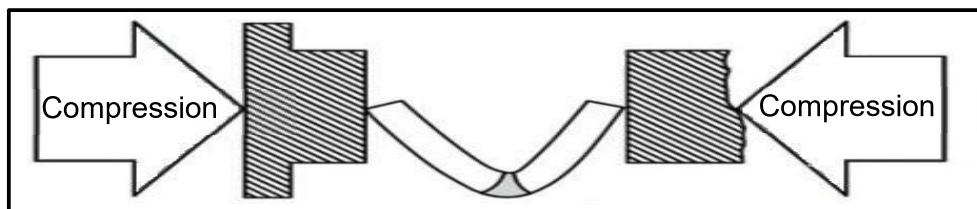

FIGURE 4.12
- 4.12 Identify the test shown in FIGURE 4.12 below.